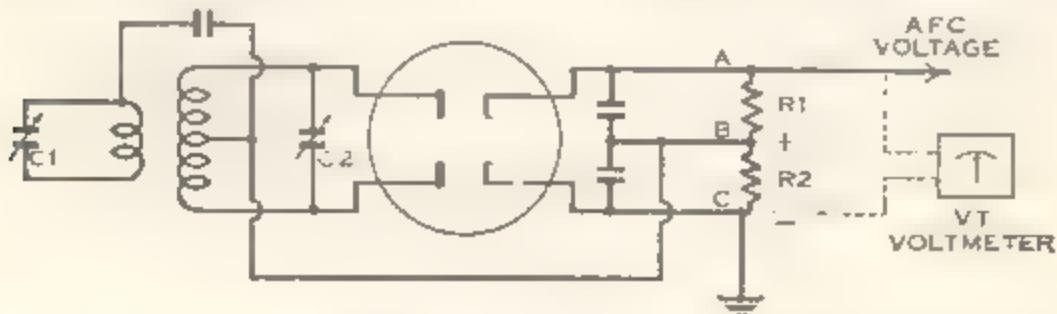

Figure 3 Simplified Circuit of Automatic Frequency Control Discriminator
if the receiver is so equipped. A simplified schematic of a commonly used AFC discriminator stage is shown in Figure 3. If the manufacturer's instructions are available, be sure to follow them. Otherwise the following method may be used.
- Connect a high resistance DC meter such as the Simpson Model 266 Vacuum Tube Voltmeter across points (a) and (c) in Figure 3.